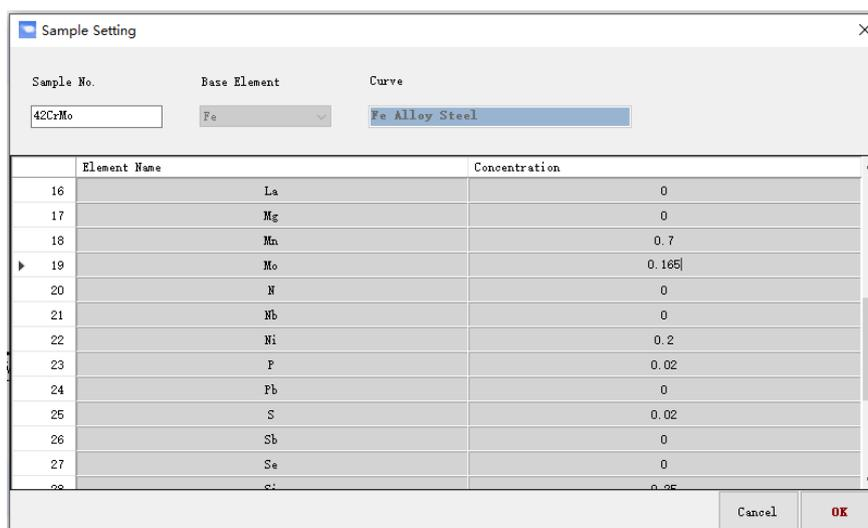

Figure 4-6 Input concentration
Step 3 Enter the corresponding sample name and content then click “OK” button, as shown in Figure 4-6: